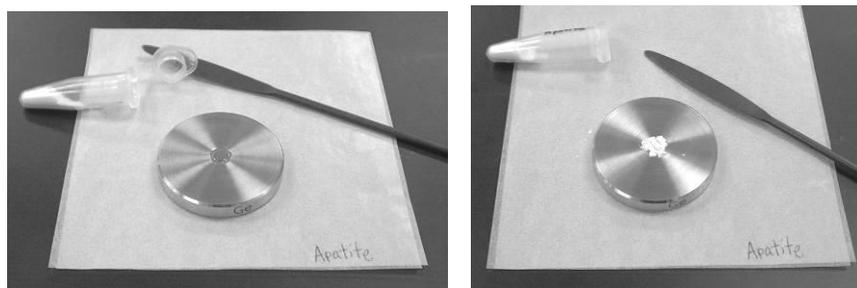

Figure 12: Sample placement on the crystal.
- 5.c. Use the brown spatula to add sample from the vial to the crystal’s surface, covering the crystal alone in a thin layer, as seen in Figure 12 above. The laser reaches only two microns of the sample layer on top of the crystal, so there is no need for a thick layer of sample or for sample to cover the rest of the crystal’s base.